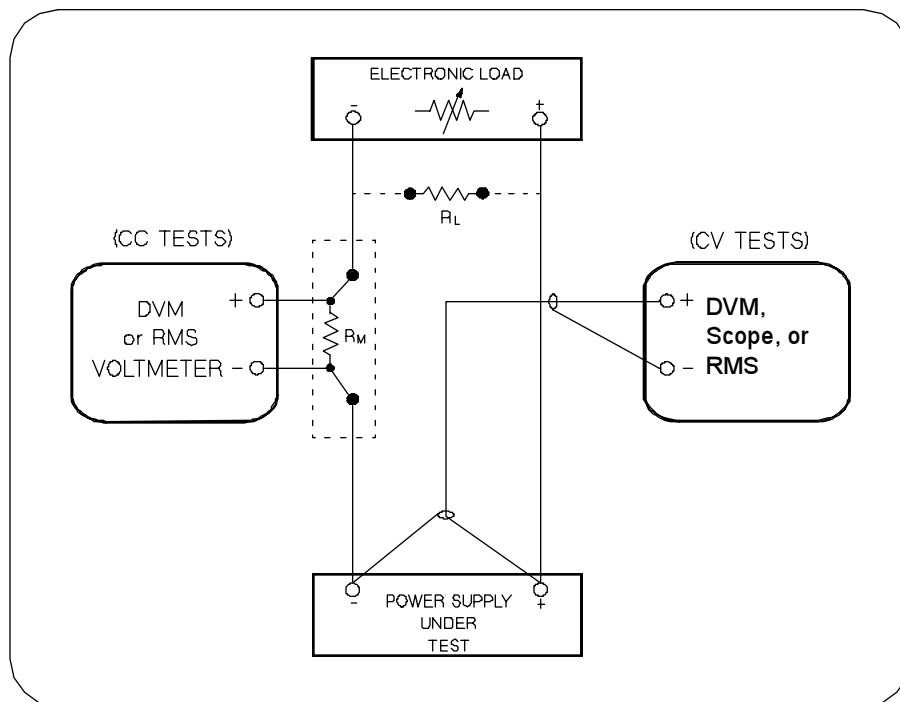

Figure A-1 Performance Verification Test Setup
Most tests are performed at the front terminals as shown in Figure A-1. Measure the dc voltage directly at the (+) and (-) terminals on the front panel.
To eliminate output current measurement error caused by the voltage drops in the leads and connections, connect the current monitoring resistor between the (-) output terminal and the load as a four-terminal device. Connect the current-monitoring leads inside the load-lead connections directly at the monitoring points on the resistor element (see R_M in Figure A-1).
- 1 Turn off the power supply and connect a digital voltmeter between the (+) and (-) terminals of the output to be tested as shown in Figure A-1.
- 1 Turn off the power supply and connect a digital voltmeter between the (+) and (-) terminals of the output as shown in Figure A-1.
- 4 Operate the electronic load in open mode (input off). Record the output voltage reading on the digital voltmeter again. The difference between the digital voltmeter readings in steps (3) and (4) is the CV load regulation. The difference of the readings should be within the limit of (5 mV)^{*} or (9 mV)^{**}.
- 6 Adjust the transformer to high line voltage (127 Vac for nominal 115 Vac, 110 Vac for nominal 100 Vac, or 253 Vac for nominal 230 Vac). Record the voltage reading on the digital voltmeter. The difference between the digital voltmeter readings in steps (5) and (6) is the CV line regulation. The difference of the readings should be within the limit of (5 mV)^{*} or (9 mV)^{**}.
- 1 Turn off the power supply and connect the output to be tested as shown in Figure A-1 to an oscilloscope (ac coupled) between (+) and (-) terminals. Set the oscilloscope to AC mode and bandwidth limit to 20 MHz. Connect a resistive load (13.5Ω)* to the terminal at (B) as shown above.
- 1 Turn off the power supply and connect the output to be tested as shown in Figure A-1 with an oscilloscope. Operate the electronic load in constant current mode.